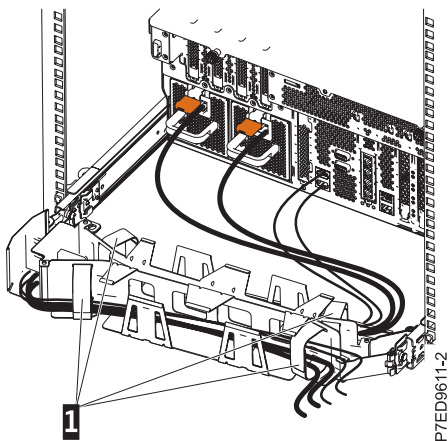

Figure 18. Routing and attaching the power cord
- Route the power cords and other cables (including the keyboard, monitor, and mouse cables, if required) on the cable-management arm (1), as shown in Figure 18. Attach all cables to the rear of the server except for the power cord. Secure the cord and cables with cable ties or hook-and-loop fasteners.